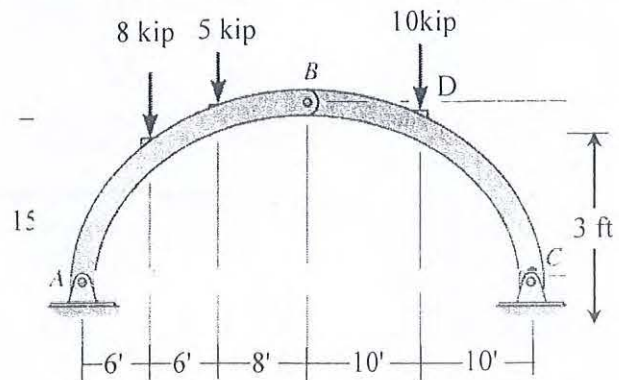

Fig.B2
2. The three-hinged arch is subjected to the loading shown in *Fig.B2*. Analyze the arch to determine the reactions at *A* and *C*, and find the bending moment at *D*. [5]